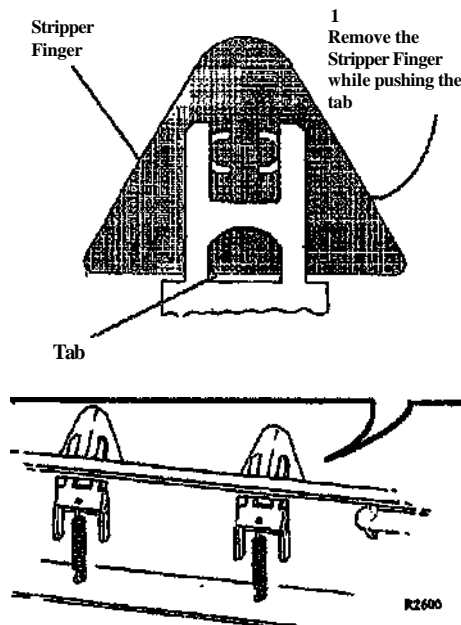

Figure 1. Removing the Stripper Fingers
2. (Figure 1): Remove the Stripper Fingers.